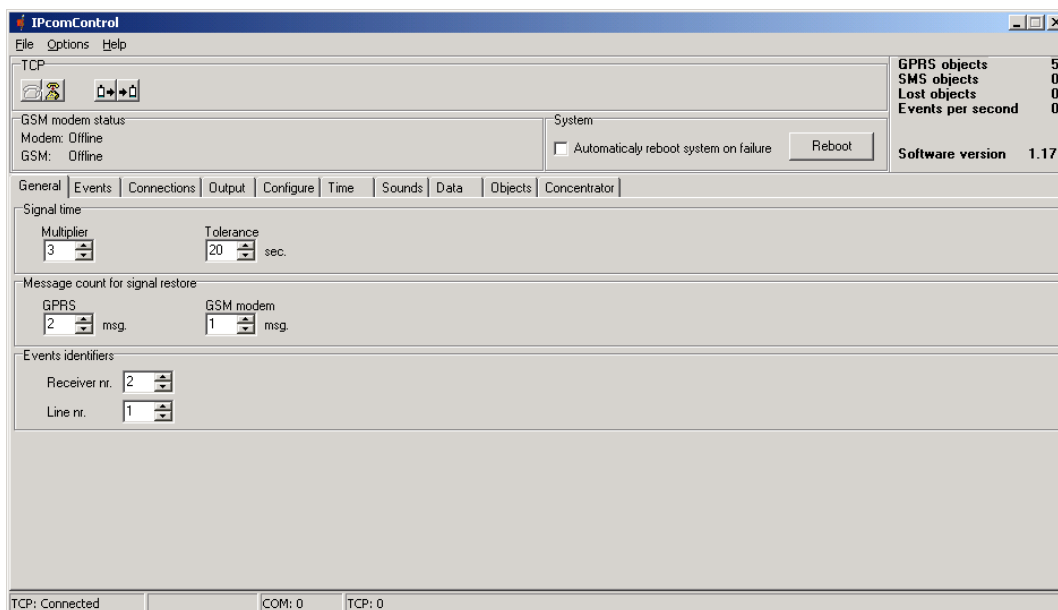

Figure 11.
8.8 In the opened window (Fig. 11), press buttons **Connect**  and **Read** .
- 8.9 In the **General** tab (Fig. 11) signal control parameters can be set: